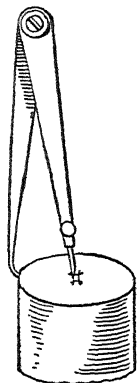

FIG. 72.
*Hermaphrodite-caliper Method* (Fig. 72).—Set the caliper1 to about the radius of the piece. Place the caliper leg on the circumference at the extreme end of the piece and with the point draw an arc near the center of that end. Move the caliper leg about one-quarter of the circumference of the end each time and draw three more arcs. The four arcs will form an approximate square, the center of which is the center required.